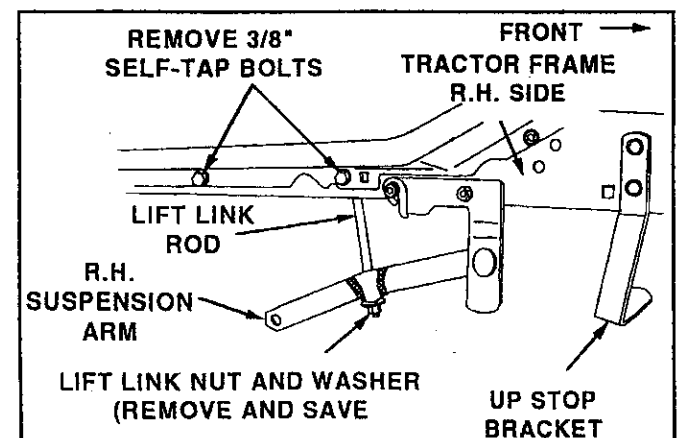

FIGURE 9
- B. Remove and save suspension arm with nut and washer from both lift link rods and up stop bracket with nuts and bolts from tractor frame to allow assembly of snow blade. Also remove the 3/8" self-tapping bolts from each side of the tractor frame as shown in figure 9. The lift link nuts will be used later to install snow blade brackets.